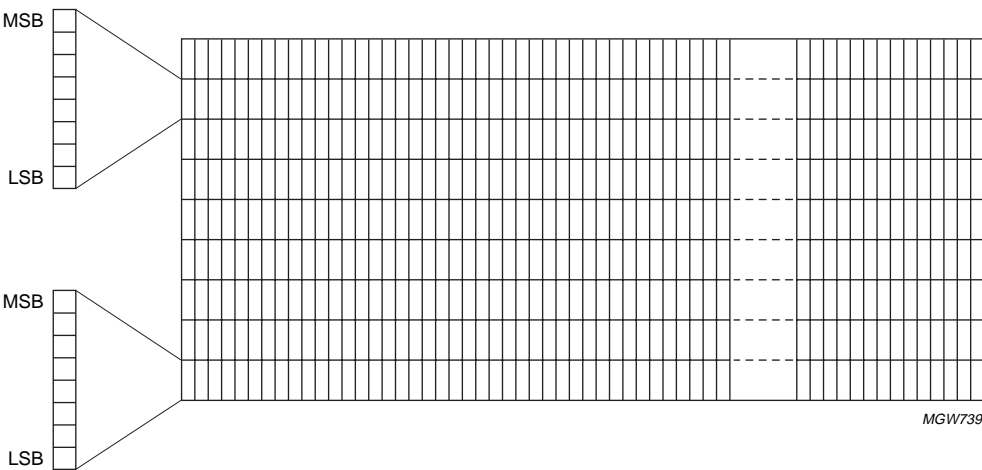

Fig.7 Display data RAM byte organisation; DO = 1.
The Data Order bit (DO) defines the bit order (MSB on top or LSB on top) for writing in the RAM; see Figs 7 and 8.